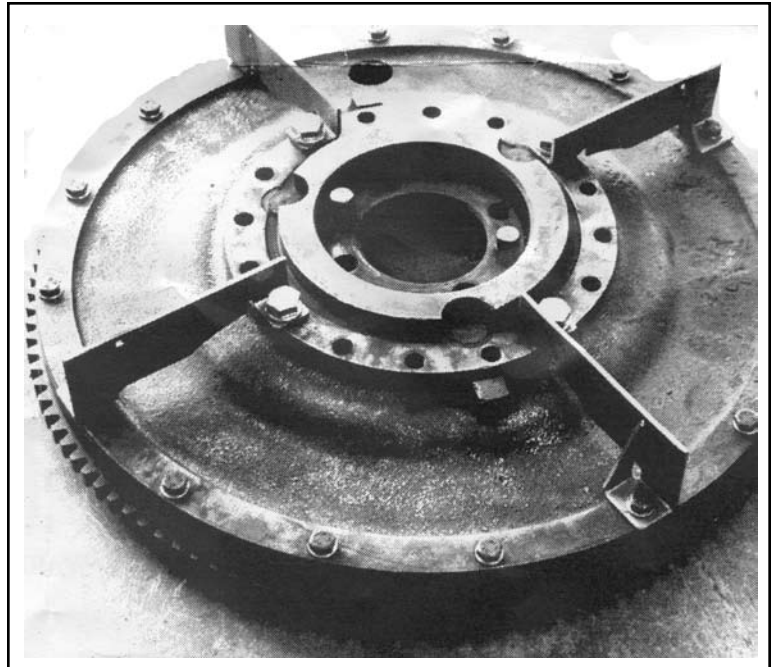

Figure 1
3) Place the ring gear back on the flywheel and line up the bolt holes. Use 6mm split lock washers on the 6mm bolts and insert the bolts into the flywheel loosely to make sure all the holes line up. Remove four of the 6mm bolts spaced at 90°s from each other (12 o'clock, 3 o'clock, and 9 o'clock). Place the oil slingers on the flywheel as shown in Figure 1 and using 6mm split lock washers, reinsert the 6mm bolts to hold the slingers.
4) Using the 3/8" lock washers, insert the 3/8-24x3/4" bolts into the inside end of the oil slingers as illustrated in figure 1. You do not need to put bolts in the empty holes.